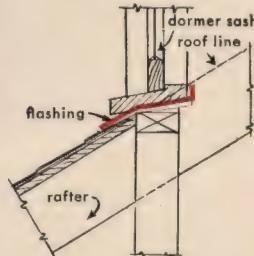

Figure 3
**Dormer Window Flashing**—Best protection is obtained by installing a copper pan extending 4 inches down on the shingles and at least 1 inch up the back of the window stool. (See Figure 3.) Carry the metal 2 inches up the fronts and sides of the studs that form the sides of the openings.